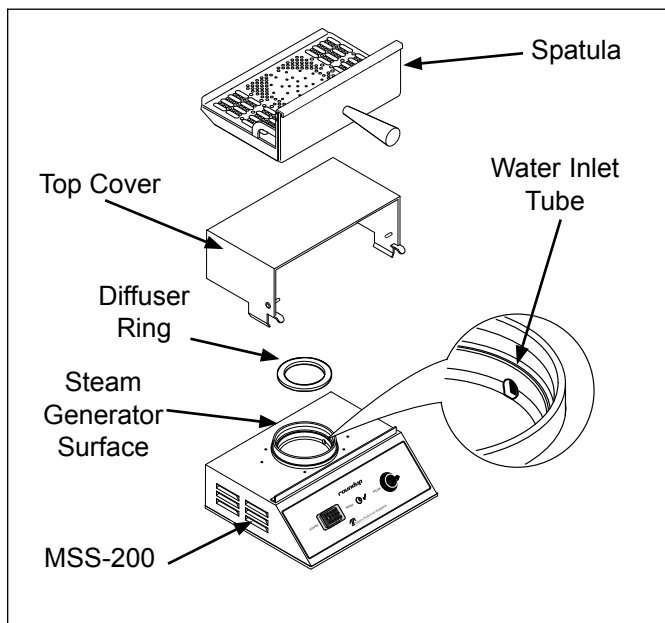

Figure 9. MSS-200 Mini Spatula Steamer
3. Remove the Spatula, Top Cover, and Diffuser. (Figure 9).
1. With the unit heated, insert a straightened paper clip **SLIGHTLY** into the Water Inlet Tube opening (Figure 9) and rotate in a circular motion